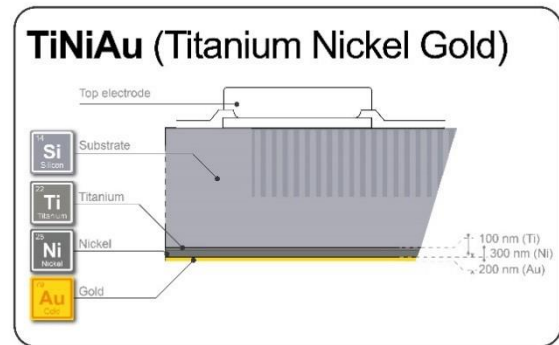

Figure 7 - Bottom electrode description
- (1) Other film frame carrier are possible on request
- (2) Au = TiWAu (0.3µm) / Au (3µm)
- (3) Refer to Figure 7